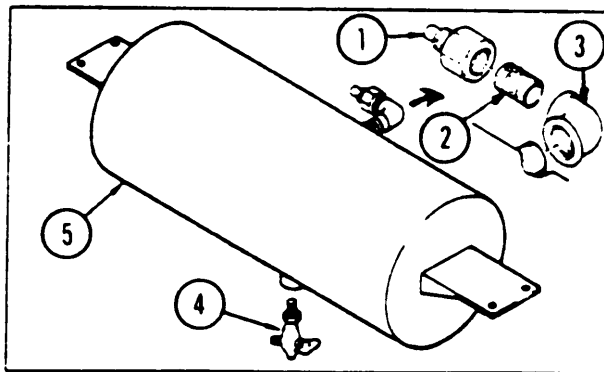

Figure 2-30. Trailer Air Brake Reservoir (ARMY)
(1) Disconnect tubing (1) from tube fitting (2).
(2) Remove nuts (3) and screws (4) attaching reservoir (5) to trailer frame (6).
(3) Remove reservoir (5), tube fitting (1), nipple (2), elbow (3), and drain cock (4) from trailer frame (6) as a single unit.
b. Disassembly. (Figure 2-30) If reservoir is to be replaced with a new one, remove tube fitting (1), nipple (2), elbow (3), and drain cock (4) from reservoir (5).
d. Assembly. (Figure 2-30) If a new reservoir is to be installed, install elbow (3), nipple (2), tube fitting (1), and drain cock (4) in reservoir (5).